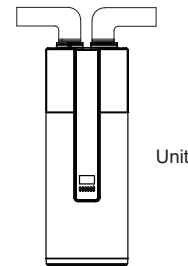

Fig.3-13
- In case of rain entering to internal components of the unit, the component might be damaged or causing physical danger. (Fig.3-13)
- In terms of the unit connect with duct reaching to outdoor, a reliable water-resistant measure must be conduct on the duct, to prevent water from dropping into internal of the unit. (Fig.3-13)